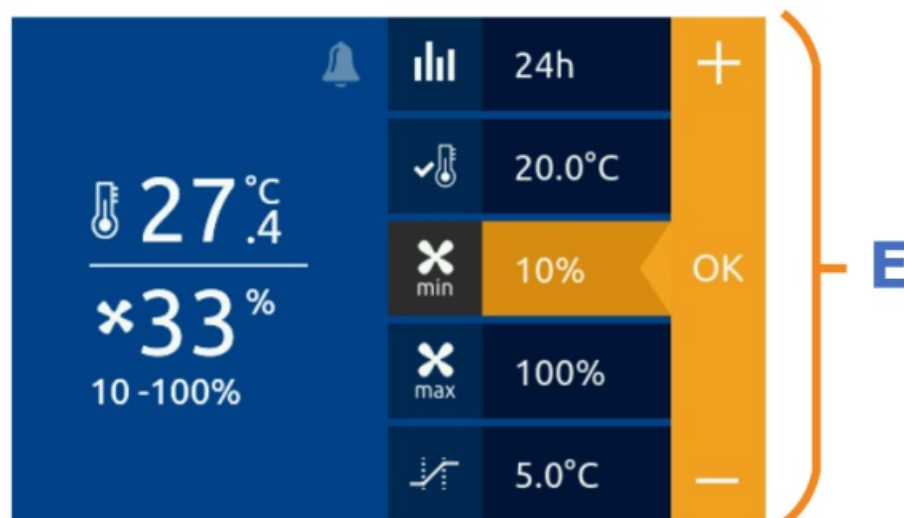

Figure 2: Adjusting settings
- By pressing the icon, you can enter your desired settings (see Figure 2: Change settings). The set values are displayed to the right of the corresponding icon.